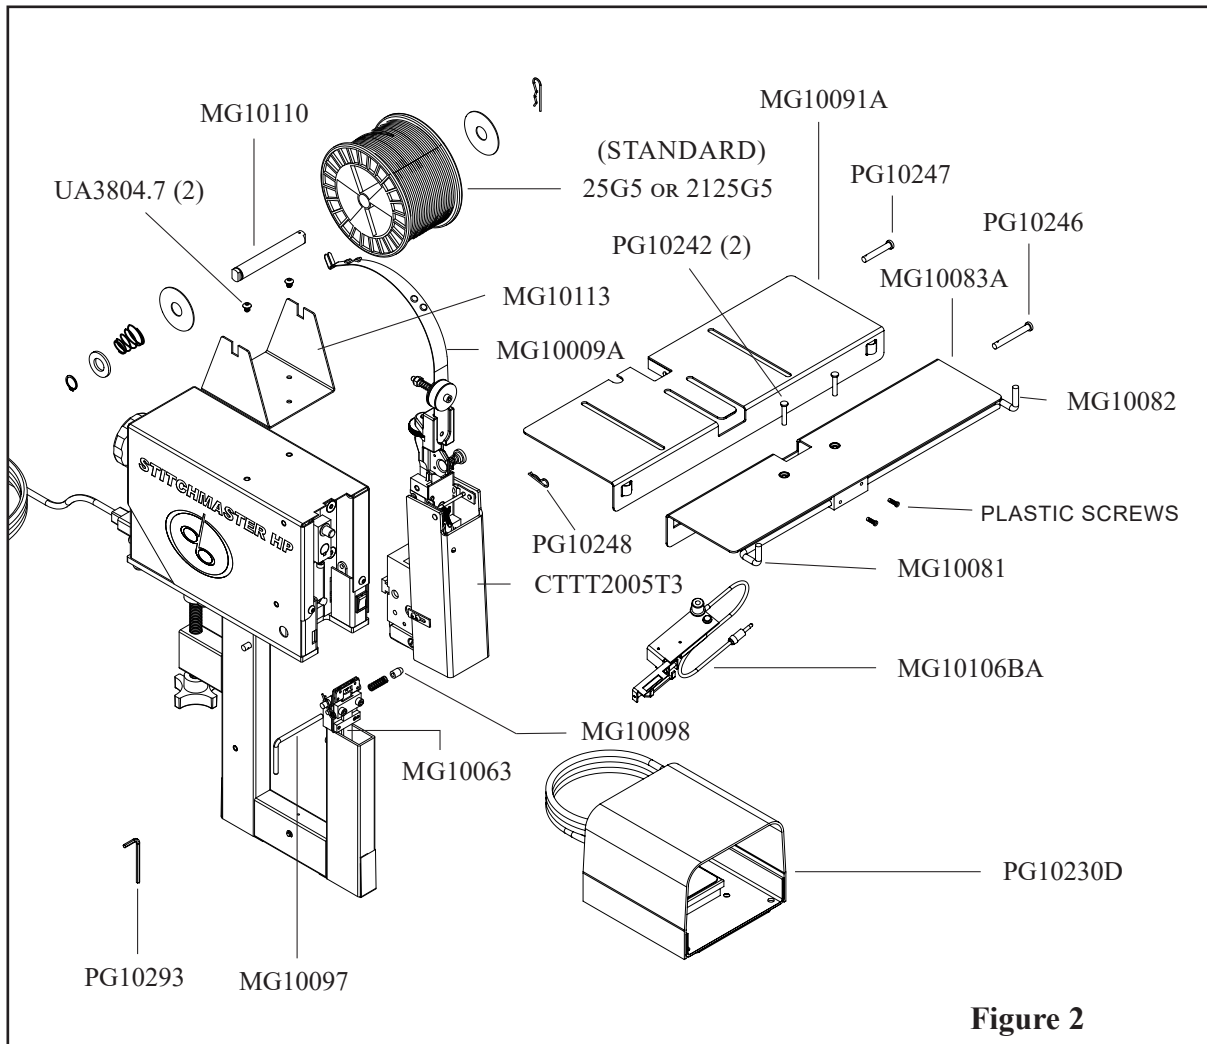

Figure 2
As you carefully unpack the machine, check to make sure all components were delivered and are in good working order. Use **Figure 2** in this manual for reference to the following pieces:
## Assembly (Figure 2)
Assemble the components of the StitchMaster HP as needed. Use **Figure 2** for part number reference. The Wire Spool Cradle (MG10113) mounts with the two (2) screws (UA3804.7) on the top of the cover (MG10044B). Use the supplied 1/8" Hex Key Wrench (PG10293) to remove the screws and then secure the Cradle to the Cover. The Wire Spool (25G5 or 2125G5) comes assembled on the Spool Shaft (MG10110) which slips into the slots in the cradle. Pay attention to the payoff direction of the wire, see **Figure 2**, so that it matches the above drawing.